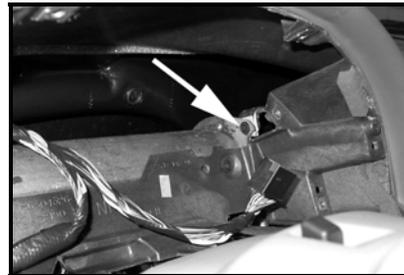

Figure 12.
- C. Loosen the screw on the dash bar at the far right of the instrument cluster opening. (See figure 12) Attach the remaining black wire to this ground point. Secure the Pod harness wiring to the dash bar.